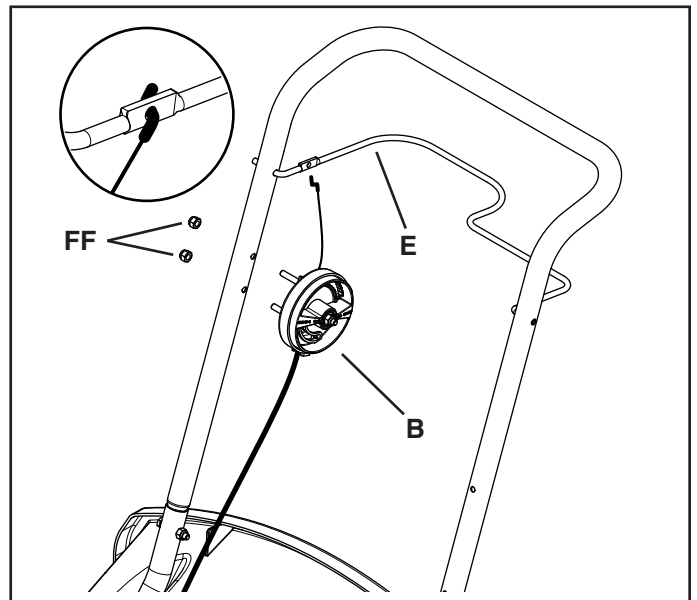

FIGURE 6
STEP 6: (SEE FIGURE 6)
- Insert the end of the cable into the flow control bail (E).
- Attach the flow control assembly (B) using two 1/4-20 nylock nuts (FF).